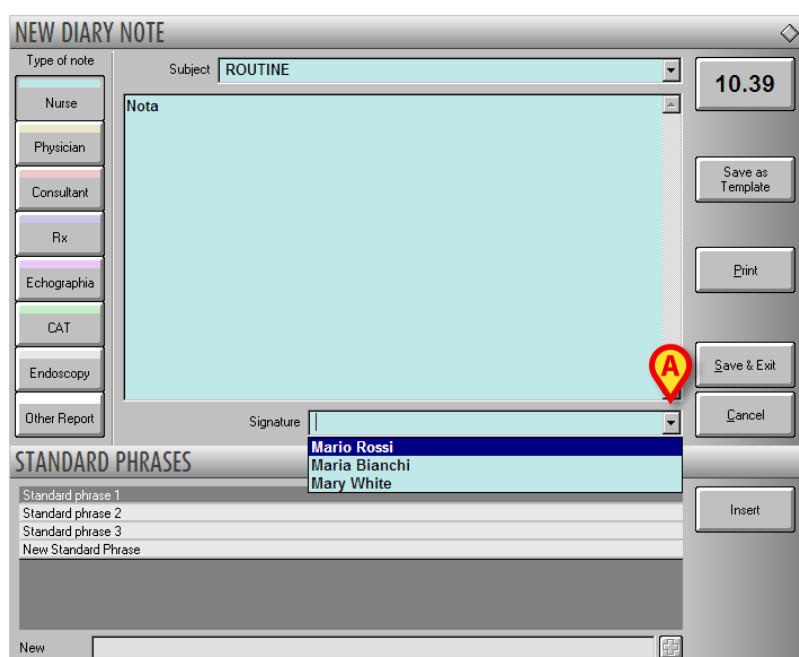

Fig 69
- click the  button placed alongside the “Signature” field (Fig 69 A). A drop down menu containing all the possible names is displayed.